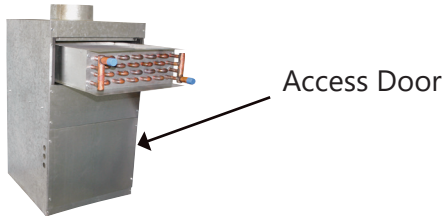

Fig. 1 - Air Handler
1. Turn off power to the air handler, and allow 5 minutes for power stored in capacitors to dissipate. Remove large access door from air handler. (Fig. 1)